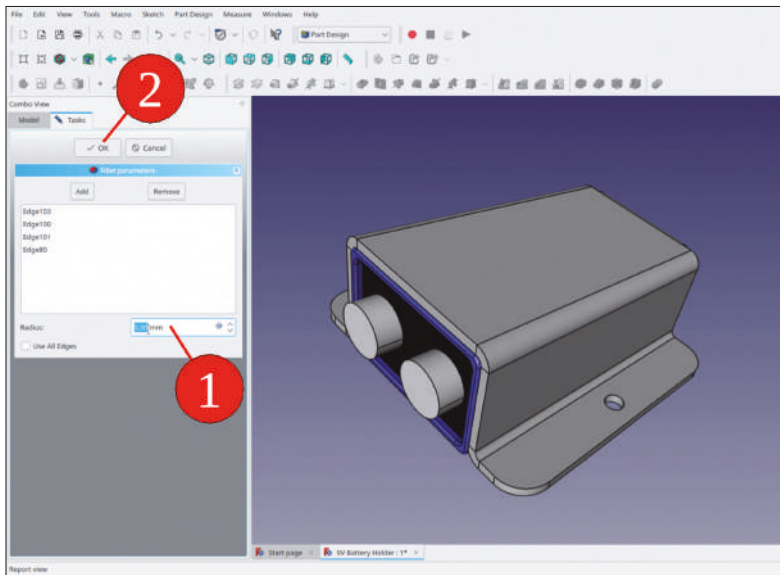

Figure 5-23
27. In the task window, enter for the radius: 5 mm (Figure 5-23), and close the task window.